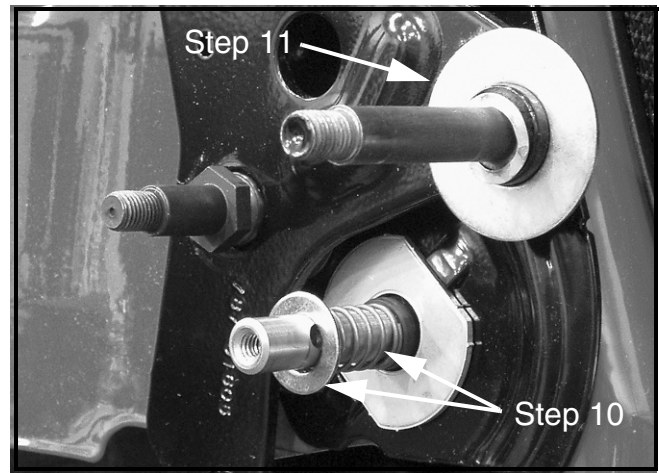

FIGURE 5
10. Assemble a Compression Spring, Item 1, and a Flat Washer, Item 4, onto the transmission's output shaft end. See Figure 5.
11. Assemble a Flat Washer, Item 2, onto the wheel axle shoulder. See Figure 5.